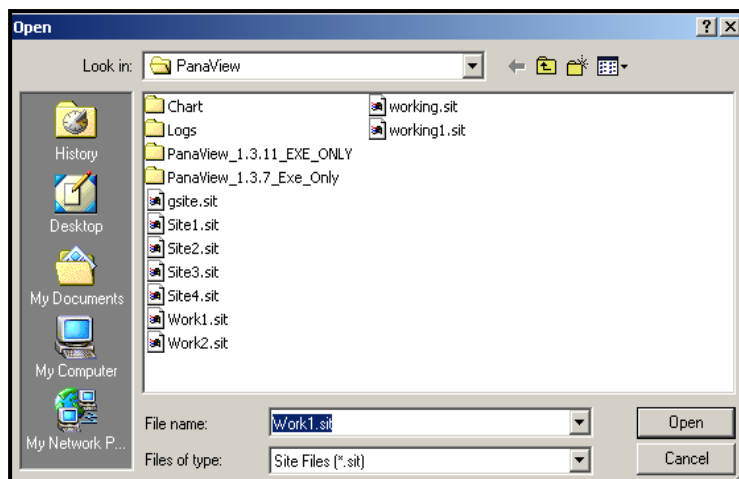
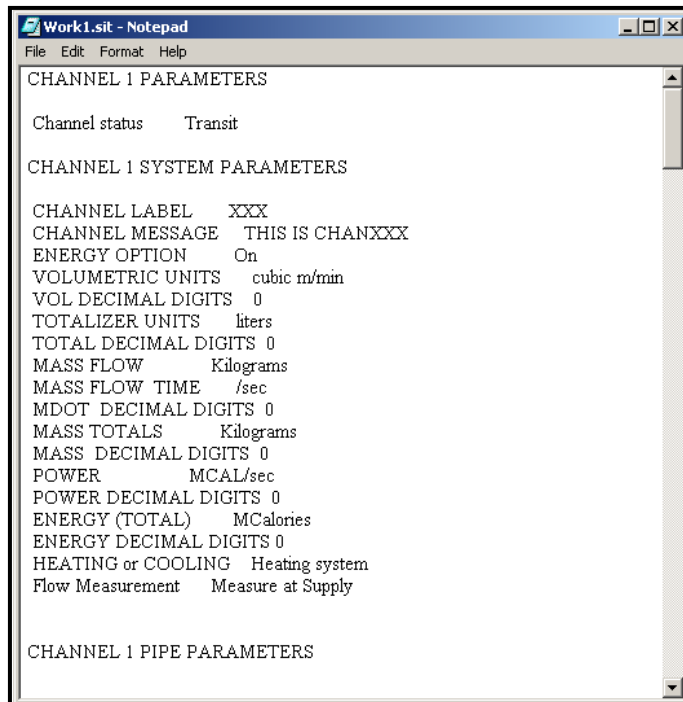

Figure 50: Site File Selection
Figure 52: Printout of Site File
2. Then click on the [Save Site to Meter] button. A screen opens similar to Figure 50.
2. Click [Save Site to PC]. A window opens similar to Figure 50 on page 66.
3. The *Site File Selection* window (as in Figure 50 on page 66) opens. Enter the desired site name (now with a .prt suffix) and click on [Save]. PanaView displays a text version of the site, as shown in Figure 52.